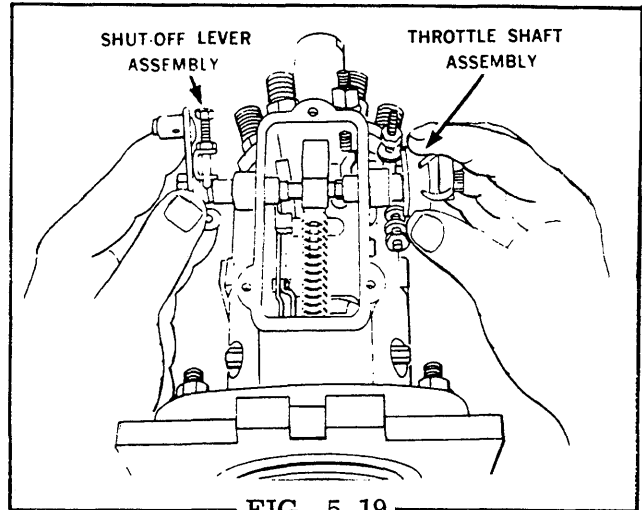

FIG. 5.19
STEP 19 Apply a light film of grease to the throttle and shut-off shaft seals. Assemble the throttle shaft assembly partially through its bore in the housing. Slide the throttle shaft lever over the throttle shaft so that the projection in the throttle shaft lever bore engages the rear key way on the shaft. Position the forked end of the throttle lever so that it straddles the guide stud. Assemble the shut-off lever assembly with a slight rotary motion so as not to damage the seal. If the throttle shaft lever is correctly installed, rotating the throttle shaft assembly to the rear will cause compression of the governor spring (Fig. 5.19).